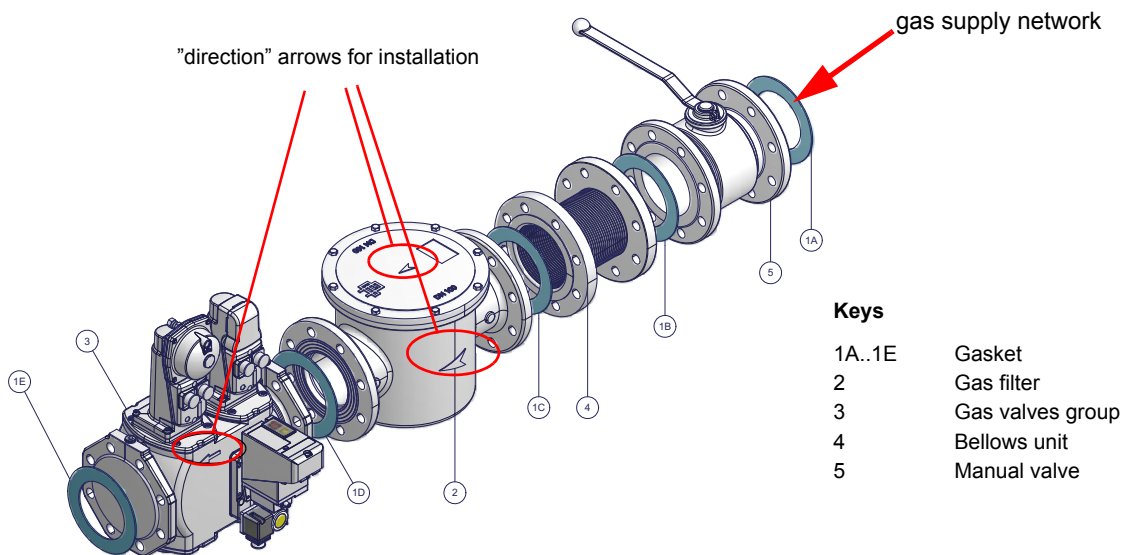

Fig. 4 - Example of gas train
1-b) in case of flanged joints: place a gasket (no. 1A..1E - Fig. 4) between the elements
**ATTENTION:** once the gas train is mounted according to the diagram on Fig. 4, the gas proving test must be performed, according to the procedure set by the laws in force.
**ATTENTION:** once the gas train is mounted according to the diagram on Fig. 4, the gas proving test mus be performed, according to the procedure set by the laws in force.